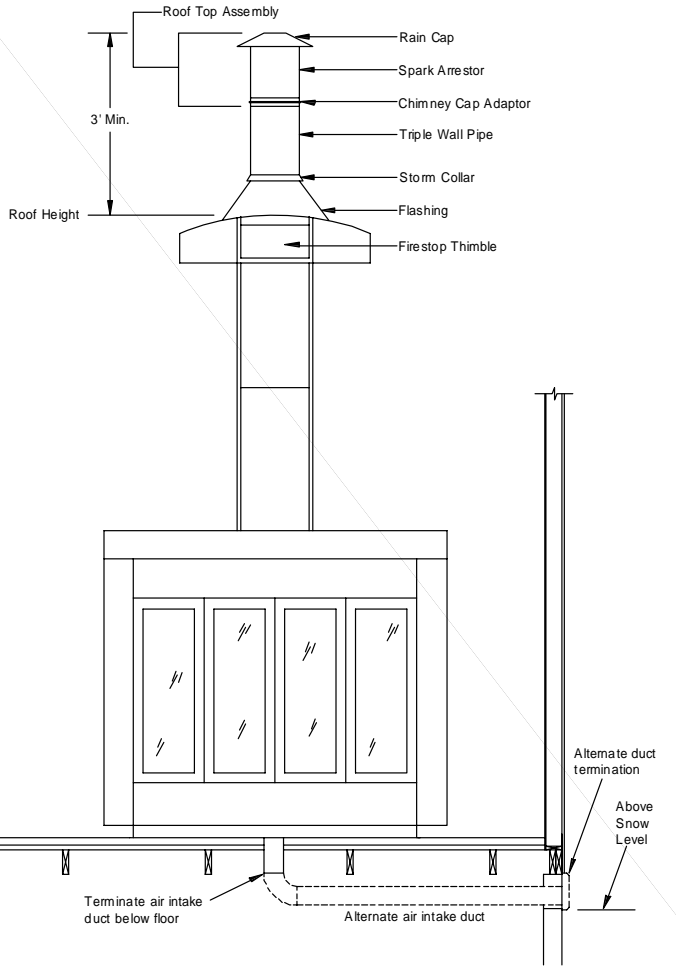

Figure 91. Chimney and combustion air intake duct installation
- a. Using a combustion air duct system, as shown in **Figure 91**, that is listed for use with the fireplace provided with the home and installed in accordance with the instructions provided, or